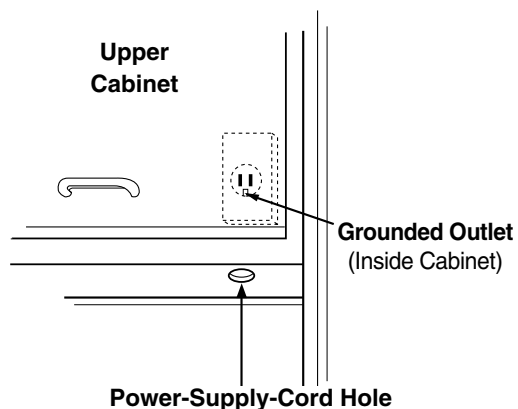

Figure 5
1. Locate the grounded electric outlet for this oven in the cabinet above the oven, as shown in Figure 5.
2. You will cut the hole for the power supply cord (shown in Figure 5) later when you prepare the wall and upper cabinet in Step 4.